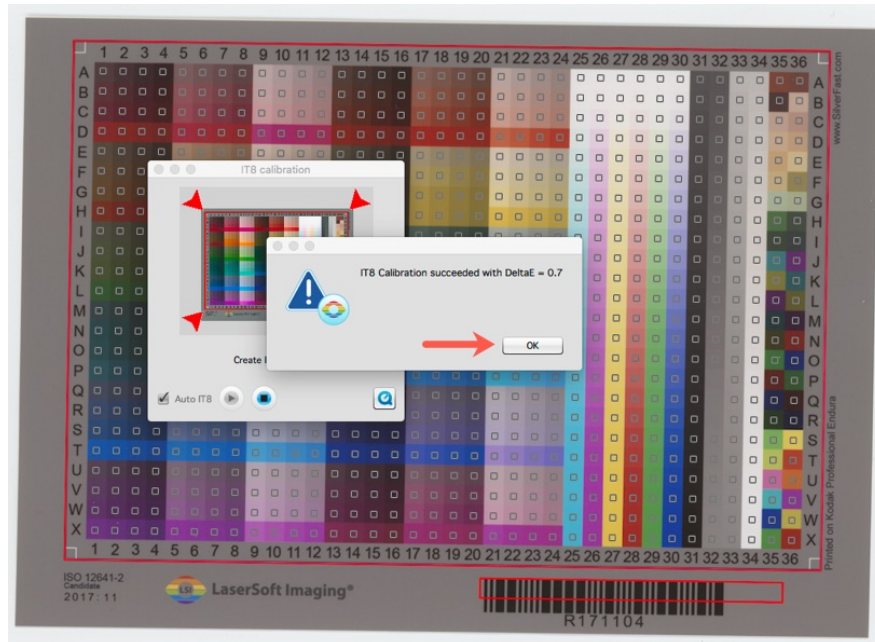

Figure 3. Auto Profiling Completion
6. The software frames the target(s), makes the profile and tells you its accuracy;  $dE(2000) = 0.7$  in Figure 3, which is excellent, but more on that below.